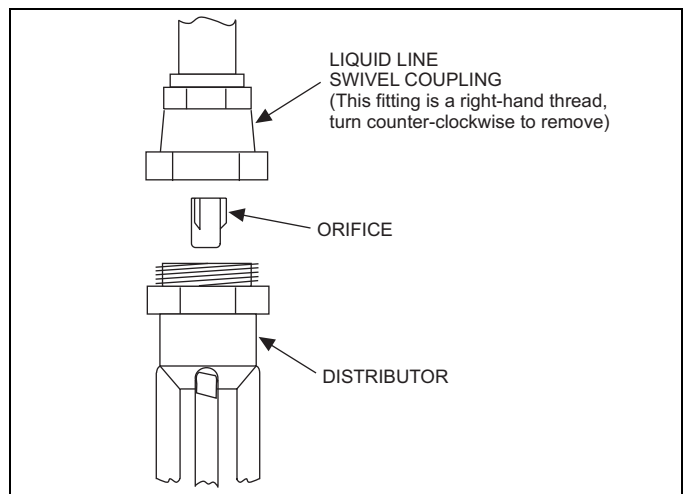

FIGURE 6: Orifice Installation
4. Route wires from disconnect through power wiring opening provided and into the unit control box as shown in Figure 6.
1. Route low voltage wiring into bottom of control box as shown in Figure 6. Make low voltage wiring connections inside the low voltage box per Figures 7-9.